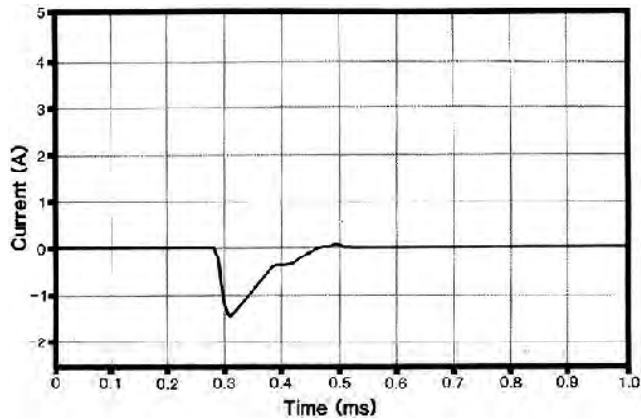

FIGURE 24. Dry Condition Current Output.
**Shock Intensity:** Current output for dry and wet fence conditions with the switches set at High-Slow are shown in FIGURES 24 and 25.